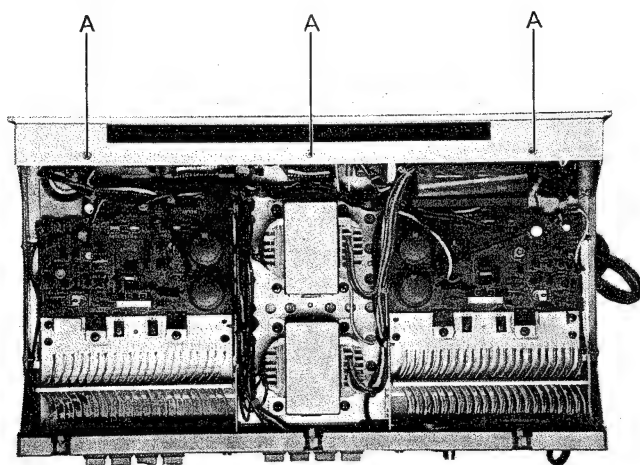

Figure 2
Remove six screws (A) from top and bottom as shown in Figure 2 and 3, and the front panel with push buttons can be removed.